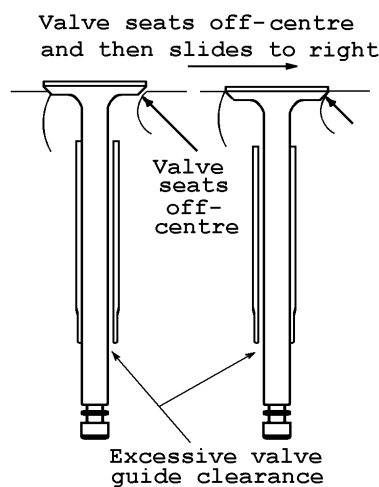

Fig.22
- The extra clearance permits the valve stem to move crosswise. This results in the valve head being eccentric to the seat when it makes contact, as shown in Fig. 22